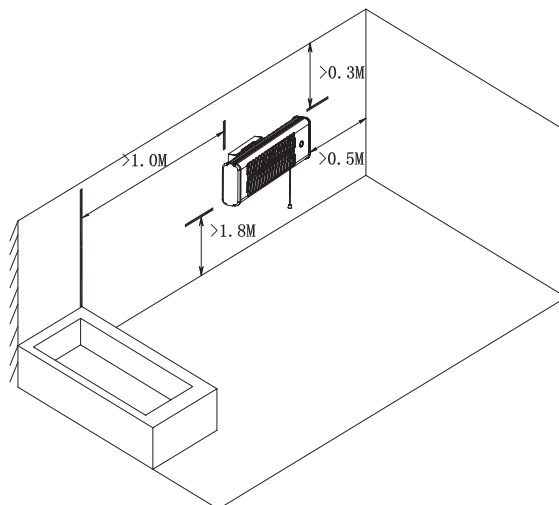

Figure 2
6. Position the heater according to the spacing requirement indicated in Figure 2 below.